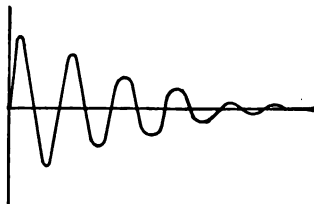

FIG. 454. — Oscillatory electric discharge.
**479. Discharge of Leyden jar is oscillatory.** In 1842 Joseph Henry discovered that when a Leyden jar was discharged through a coil of wire surrounding a steel needle, the needle was magnetized. Not only that, but he was astonished to find that sometimes one end was made the north pole and sometimes the other, even though the jar was always charged the same way. He accounted for this fact by supposing that the discharge current kept reversing back and forth, that these oscillations gradually died away, and that the direction in which the needle was magnetized depended on which way the last perceptible oscillation happened to go. This oscillatory current is represented by the curve in figure 454.